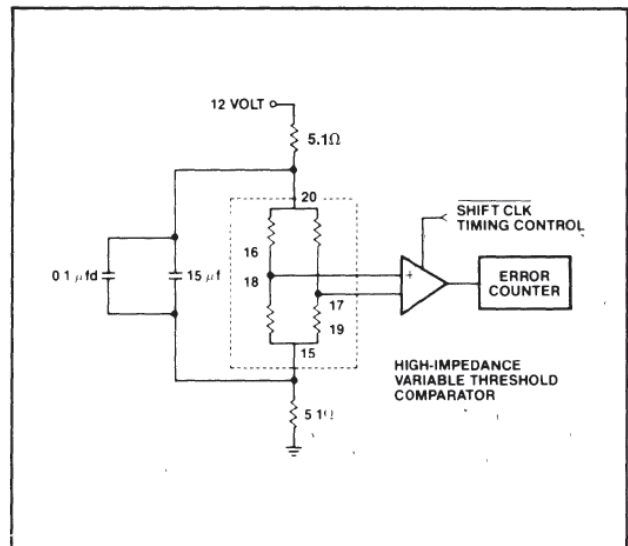
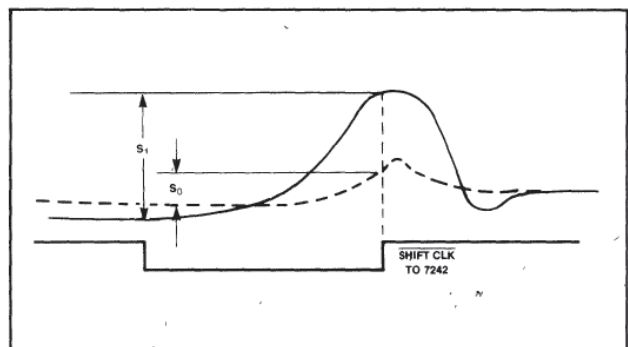

Figure 8. Test Setup for Output Measurement
Figure 9. Detector Output Waveforms
3. See Fig 8 for test setup, and Fig 9 for detector output waveforms and timing.